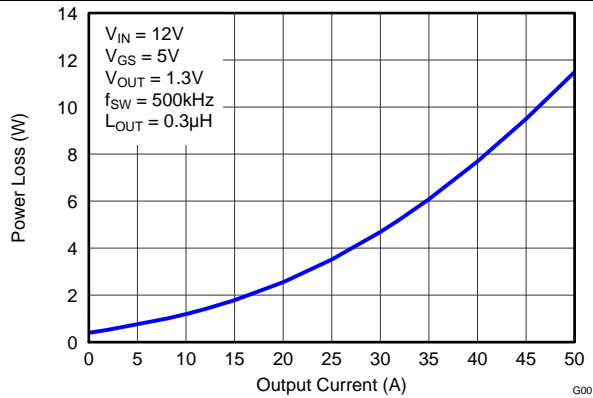
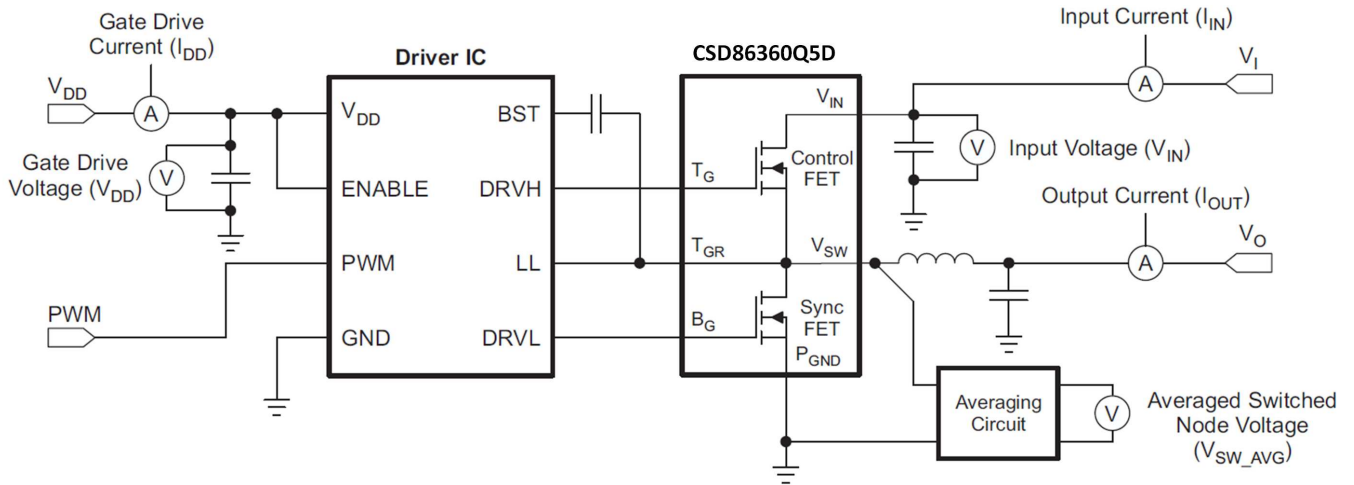

Figure 2. Power Loss vs Output Current
Figure 33. Typical Application
MOSFET centric parameters such as  $R_{DS(ON)}$  and  $Q_{gd}$  are needed to estimate the loss generated by the devices. In an effort to simplify the design process for engineers, Texas Instruments has provided measured power loss performance curves. **Figure 2** plots the power loss of the CSD86360Q5D as a function of load current. This curve is measured by configuring and running the CSD86360Q5D as it would be in the final application (see **Figure 33**). The measured power loss is the CSD86360Q5D loss and consists of both input conversion loss and gate drive loss. **Equation 1** is used to generate the power loss curve.
The power loss curve in **Figure 2** is measured at the maximum recommended junction temperatures of 125°C under isothermal test conditions.
- Power loss at 25 A = 3.5 W (Figure 2)